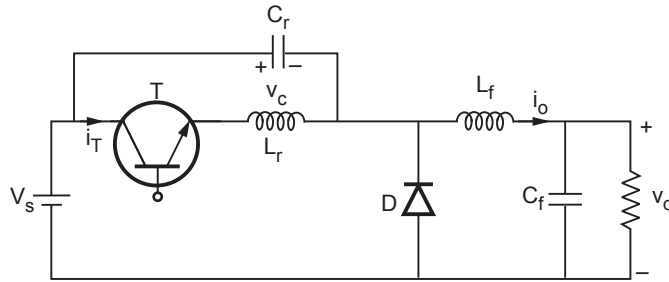
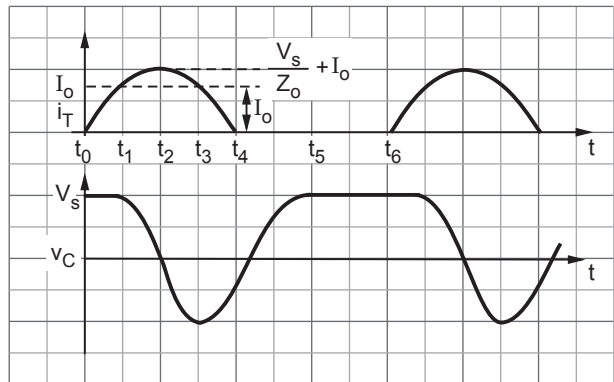

Fig. 5.7.3 ZCS DC-DC converter
Fig. 5.7.4 Waveforms of ZCS DC-DC converter
- **Circuit diagram and waveforms** : Fig. 5.7.3 shows the circuit diagram and Fig. 5.7.4 shows the waveforms of the ZCS converter.